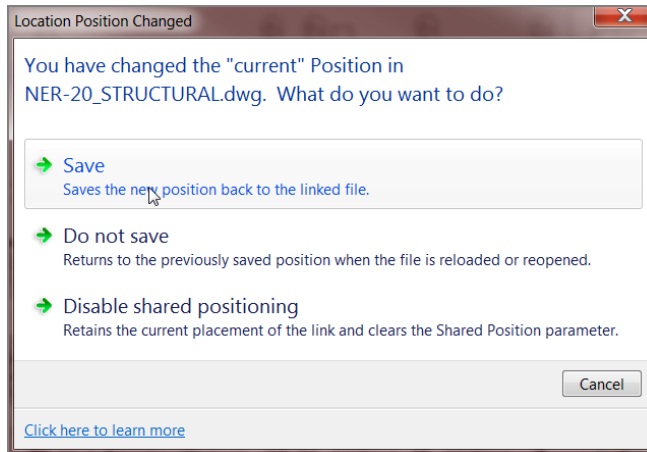

FIGURE 20.22: Saving the coordinates to the AutoCAD file
9. After you save the Revit model, you're prompted to save the new coordinates in the DWG file. Click the Save button, as shown in Figure 20.22.